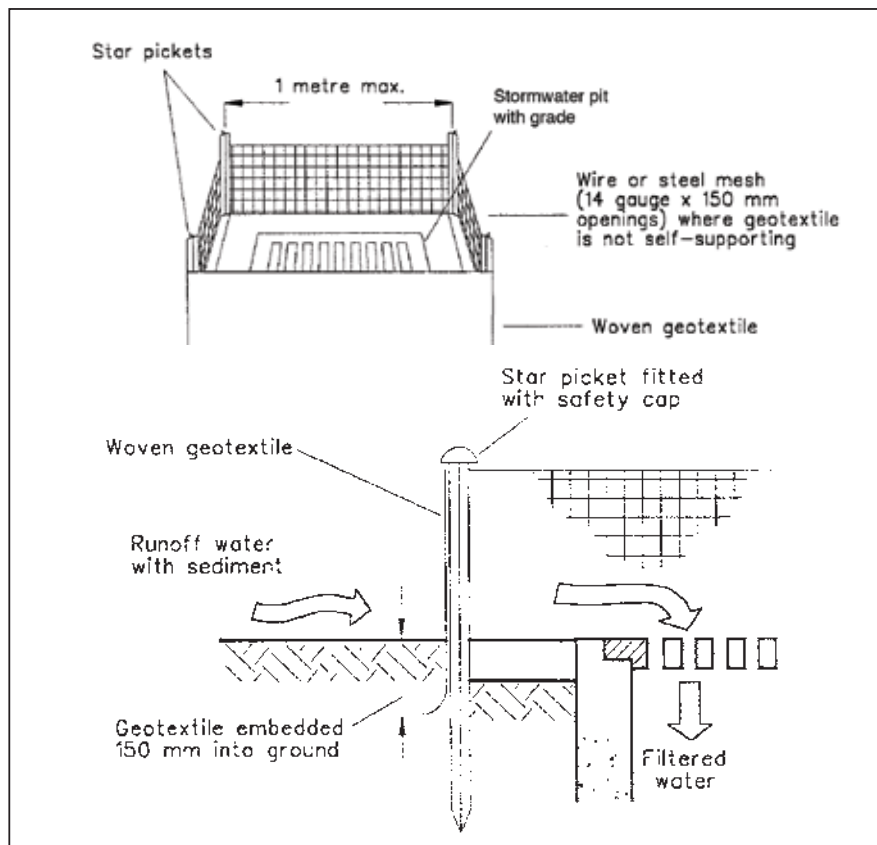
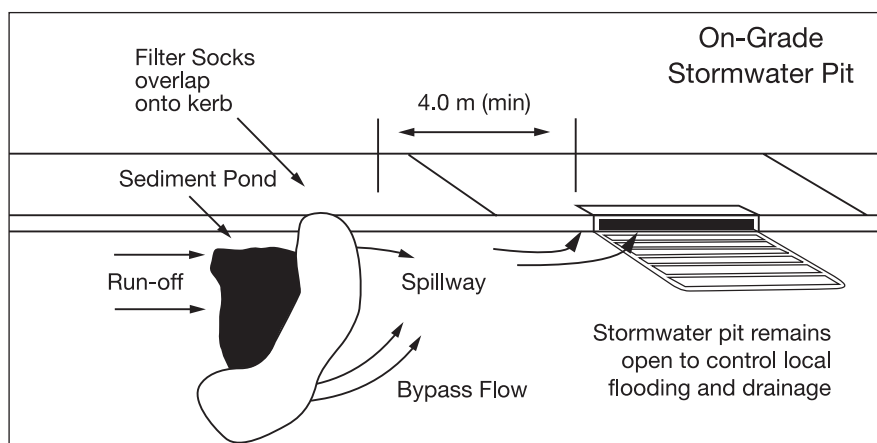
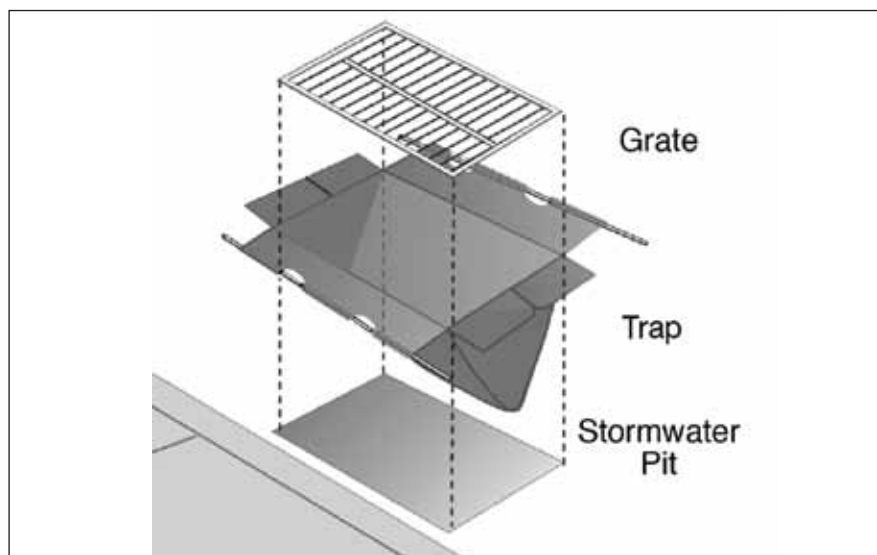

Figure 15A: A sediment fence trap.
Figure 15B: A filter sock.
Figure 15C: Stormwater pit trap.
**Sediment fence trap:** these are sediment fences staked around the stormwater pit to trap sediment. Fabric must be partially buried so that water and sediment does not just flow underneath. The more space between the fence and the pit, the more chance of sediment settling and the greater the capacity of the trap (see **Figure 15A**).
Filter socks can be installed in the kerb and gutter below the work site, while longer socks can be used as a barrier around the stormwater pit (see **Figure 15B**).
**Stormwater pit traps:** are baskets, trays, bags or screens placed just below the entrance of the stormwater pit. They prevent sediment from entering the stormwater system. Fine mesh or fabric filters should be used to capture sediment (see **Figure 15C**).
Figure 15A from Landcom 2004 "Soils & Construction Volume I Managing Urban Stormwater (4th edition)". Figure 15B after South East Queensland Healthy Waterways Partnership 2006 "Best Practice Guidelines for the Control of Stormwater Pollution from Building Sites". Figure 15C after California Regional Water Quality Board 1999 "Erosion & Sediment Control Field Manual". Text in this brochure has been obtained and modified from the "Do It Right On Site" brochure series, kindly provided by the Southern Sydney Regional Organisation of Councils.